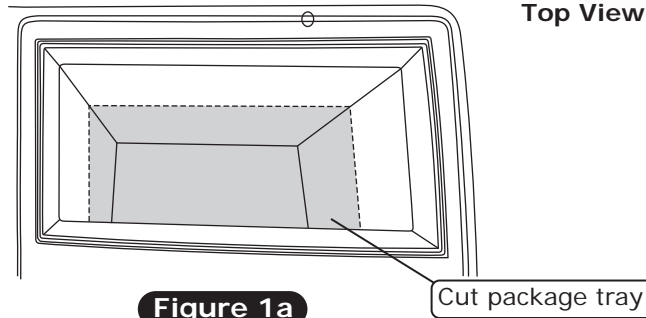

Figure 1a
2. Measure, mark, cut and remove the back of the package tray (See Photo 1, and Figure 1a, below). **NOTE: Be sure to cut using the dimension provided to properly install the new louver bezel.**
3. Place the driver-side louver into the square opening and drill the (4) mounting holes using a 3/32" drill bit, then secure the louver using (4) #4 x 1/2" screws (See Photos 2 and 3, below).